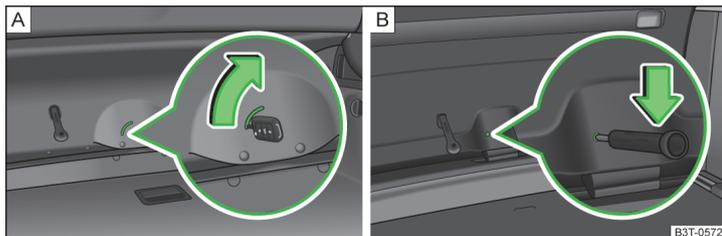

Fig. 194 Emergency unlocking: Superb / Superb Combi
- Insert the vehicle key into the slot in the trim panel as far as the stop » Fig. 194 - **A**.
- Insert a screwdriver or similar tool into the opening in the trim as far as the stop » Fig. 194 - **B**.